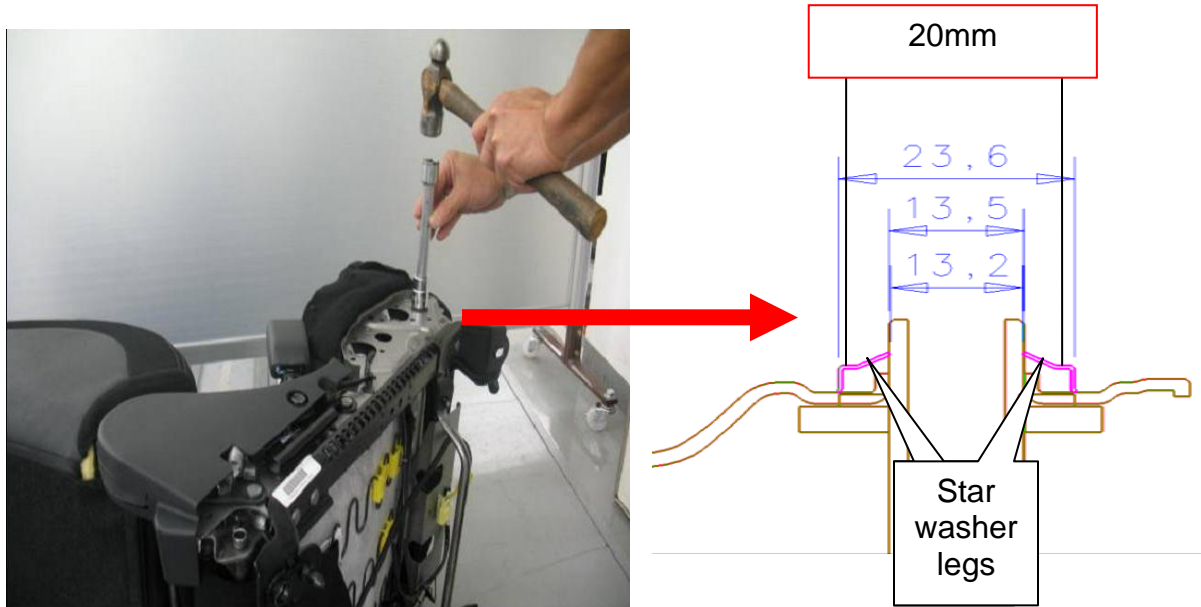

Figure 4
4a. Locate a pipe, socket, or similar tool with an internal dimension (ID) between 20 to 21mm that can be used as a drift. Ensure size is such that it does not interfere with “legs” of star washer (see Figure 4).